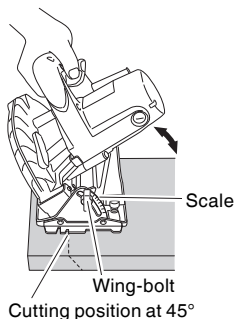

Fig. 5
By loosening the wing bolt at the scale, the saw blade can be tilted up to maximum angle of 45° against the base (Fig. 5).
The angle of inclination can also be regulated by loosening the wing bolt at the scale (Fig. 5).
- (1) Turn the base face up (Fig. 9) and loosen the wing-bolt (Fig. 5).
- (2) Apply a square to the base and the saw blade and turning the slotted set screw with a slotted-head screwdriver, shift the position of the base to produce the desired right angle.